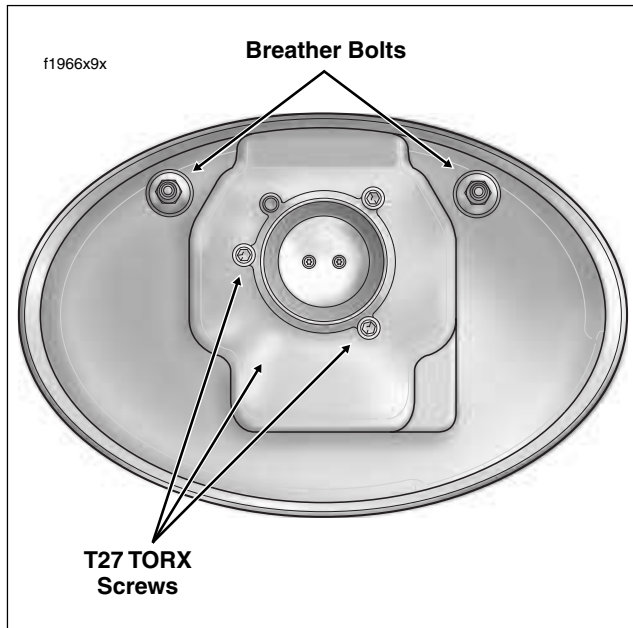

Figure 9-26. Install Backplate to Align Induction Module
8. Use the air cleaner backplate to properly locate induction module. Install two breather bolts to fasten backplate to front and rear cylinder heads. Install three T27 TORX screws to secure backplate to face of induction module. See Figure 9-26.